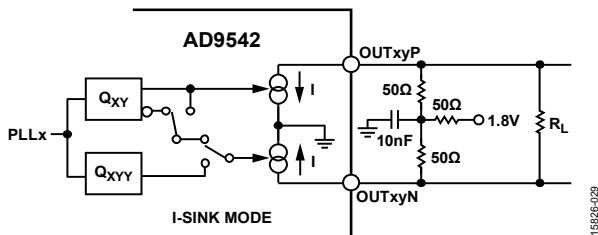
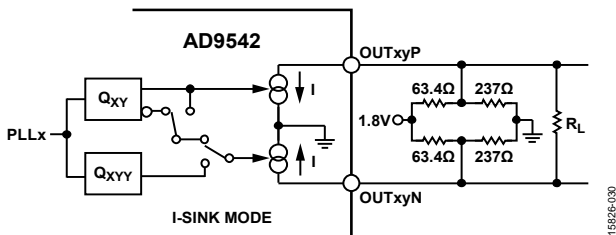

Figure 34. LVDS-Compatible Output, 1.24 V Common-Mode, T Network ( $I = 7.5$  mA;  $I = 15$  mA With Extra 100 Ω Termination,  $R_L$ )
Figure 35. LVDS-Compatible Output, 1.2 V Common-Mode, Thevenin Bias Network ( $I = 7.5$  mA; 15 mA With Extra 100 Ω Termination,  $R_L$ )
- The 15 mA mode produces a voltage swing and is compatible with LVPECL. If LVPECL dc signal levels are required, the designer must ac couple and rebias the AD9542 output. The 15 mA mode can also be used with the termination scheme shown in Figure 34 and Figure 35 to produce an LVDS signal with the correct LVDS dc bias.